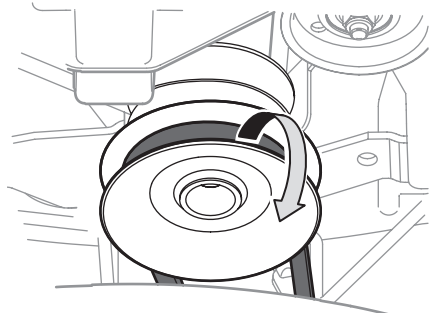

Figure 29
4. Remove the belt from around the riding mower's PTO pulley. See Figure 29.
3. Remove the deck belt from around the riding mower's PTO drive pulley as shown in Figure 29. Simply roll one side of the belt off the pulley and then work it off the pulley by continuing around the pulley until the belt is off of the pulley.
9. Feed the deck belt through the belt keeper rod and work it around and onto the PTO drive pulley as shown in Figure 29.